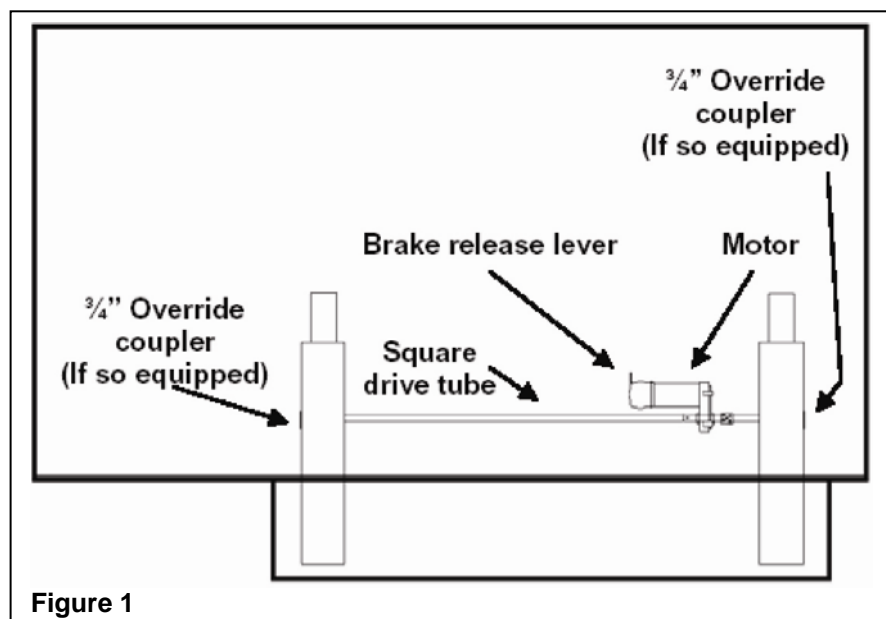

Figure 1
1. Locate the slide out motor. The motor will be attached to the base of the system or in between the slide out arms. Refer to Figure 1 on pg 1.
5. If the motor is located between the rails of the slide out system, the override coupling will be located on the side of the front or rear rail assembly. Refer to Figure 1.